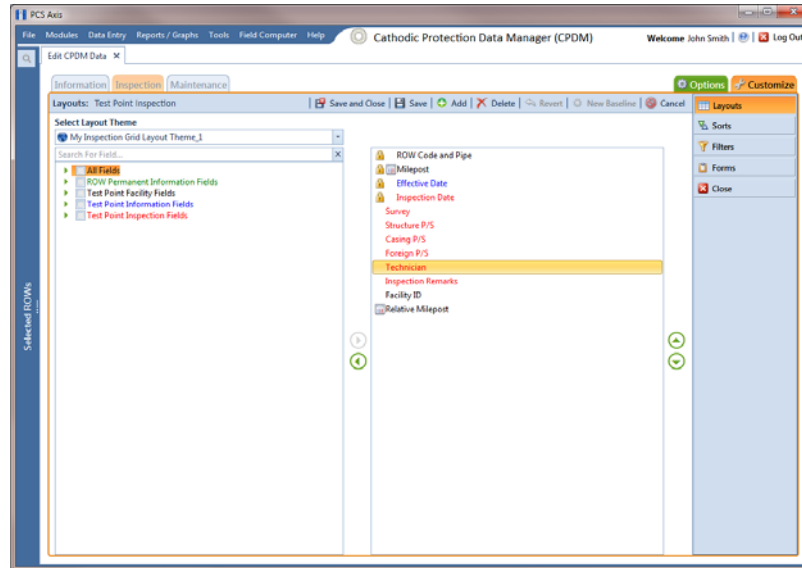

Figure 6-68. Layouts
- 8 Click  **OK** to save changes and return to the *Layouts* page (Figure 6-68, page 235).